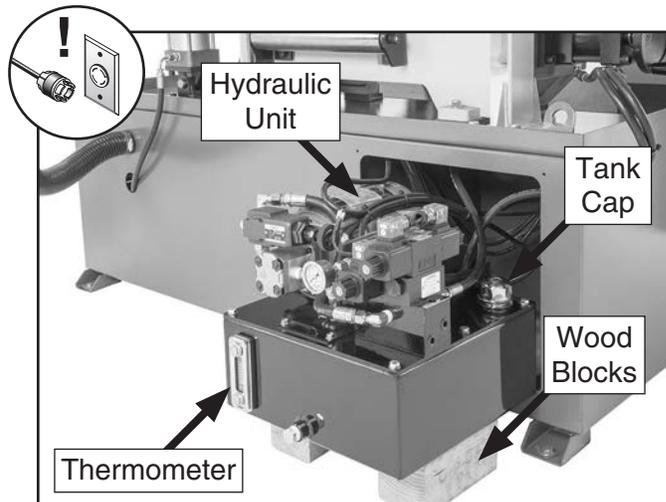

Figure 68. Hydraulic unit removed from base.
4. Check fluid temperature on thermometer mounted to hydraulic fluid tank (see **Figure 68**). The temperature should read between 50–95°F (10–35°C).
5. Slide hydraulic unit out of machine base and support weight of hydraulic unit with wood blocks (see **Figure 68**).
6. Remove tank cap (see **Figure 68**) and inspect for burnt-smelling or tan-colored, water-contaminated hydraulic fluid.